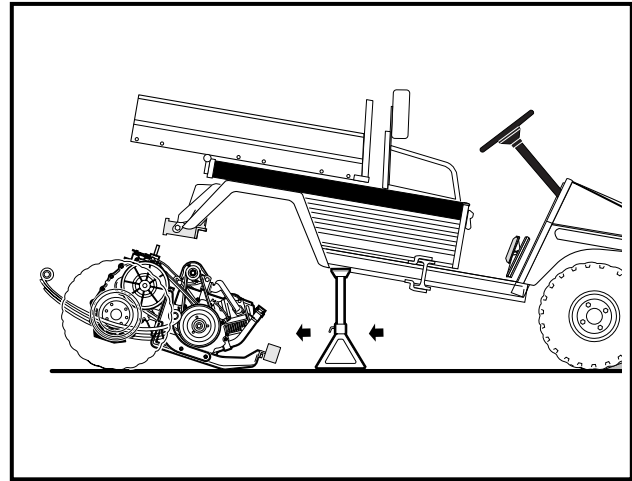

Figure 16-26 Remove Powertrain
13. Grasp the ends of the leaf springs at the rear of the vehicle and roll the powertrain out from under the vehicle (**Figure 16-26, Page 16-12**).